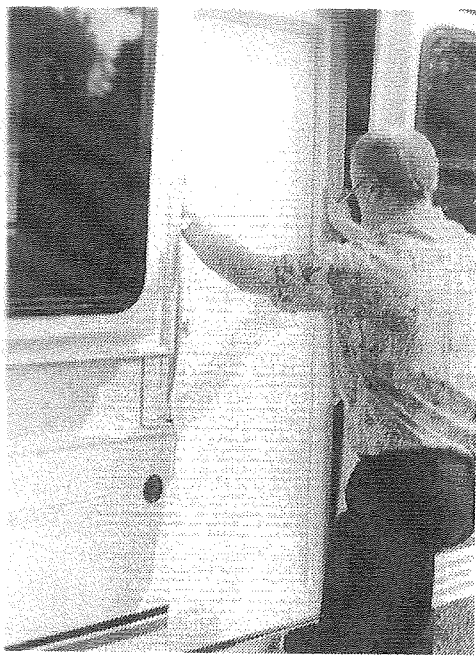

FIGURE 25
4. Step outside and grasp the door frame with both hands, one on either side, lower screen door into door threshold at base of doorway. See Figure 25. Unlock screen door latch and step inside.